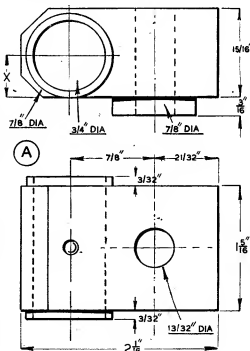

Fig. 3
The Turret (A). The casting is gripped in the four-jaw chuck and all its surfaces, except the lower which bears the register, are faced to bring it to the approximate dimensions shown in the working drawings in Fig. 3. The bosses on the side faces, against which the sleeve abuts, are turned to their finished diameter at a later stage when the remaining portions of the side surfaces are also turned. The turret is next placed on the surface plate and the two cross centre-lines of the hole to afford passage for the central clamping-bolt are marked-out with the surface gauge. The point of intersection of these centre-lines is drilled with a centre drill, and the casting is again gripped in the four-jaw chuck with this